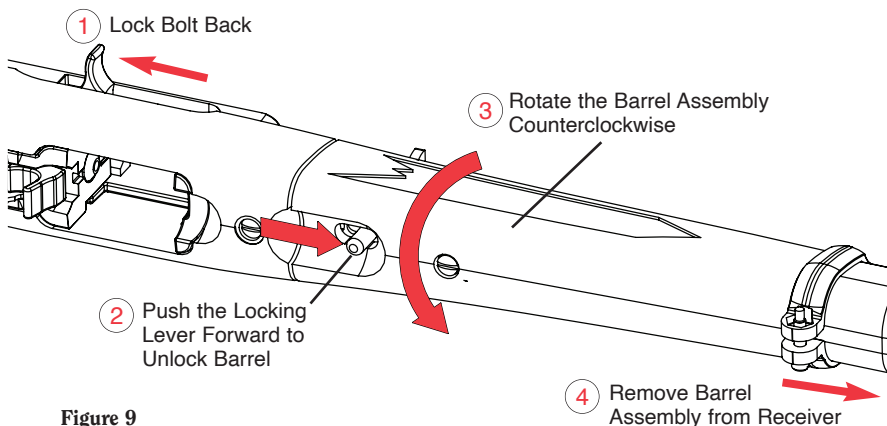

Figure 9
5. To remove the barrel assembly, (1) lock the bolt back and (2) push the locking lever towards the muzzle. Next, (3) rotate the barrel assembly **counterclockwise** and (4) pull the barrel assembly out of the receiver. (See Figure 9.)